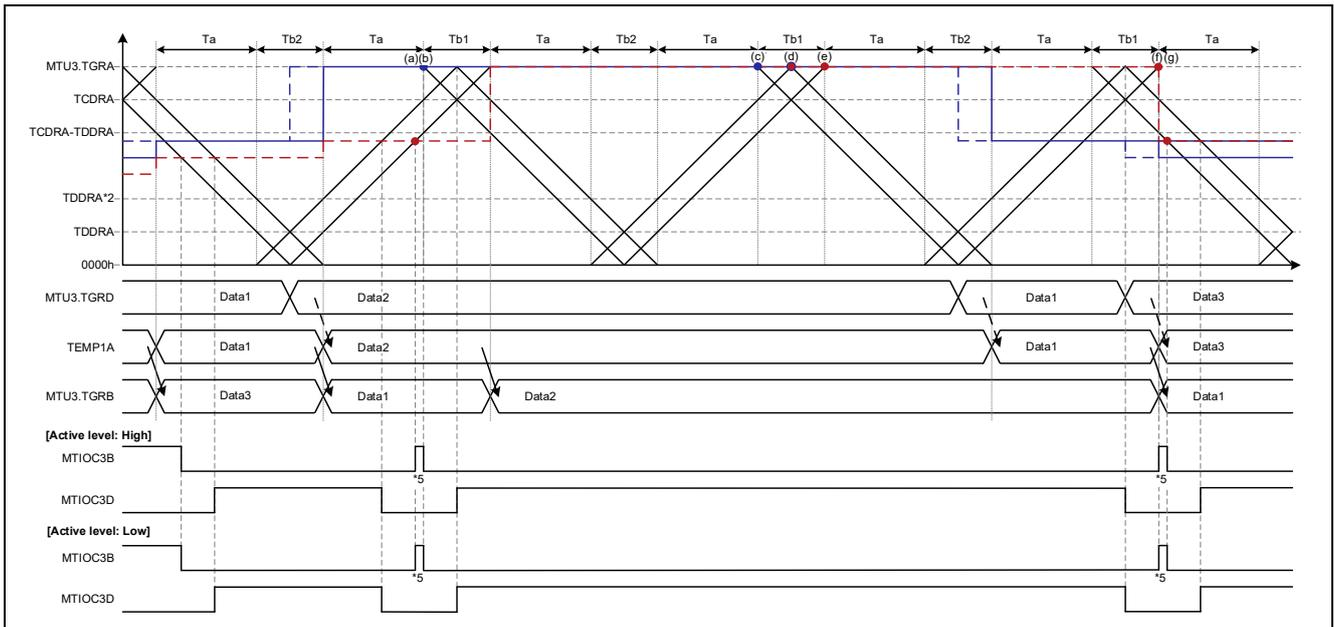

**Figure 1.51 Complementary PWM Mode 2 Operation Example
- [Operation example 2] Figure 1.51, Complementary PWM Mode 2, Output Start: Trough, Ta Interval Overwrite, caution 8
Figure 1.51 shows an operation example of buffer overwrite in the Ta interval in complementary PWM mode 2. Except for the difference in the buffer overwrite timing, the operation is the same as that shown in Figure 1.50.